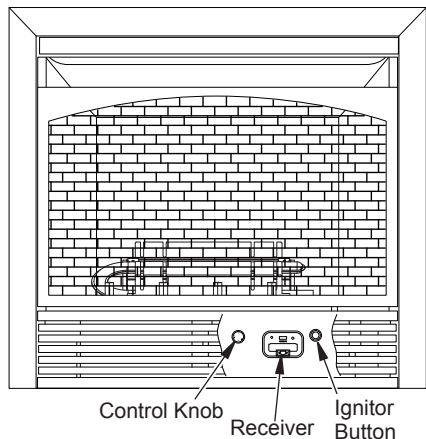

Figure 24 - Control Knob in the OFF Position
*Note: The first time that the heater is operated after connecting the gas supply, the control knob should be pressed for about thirty (30) seconds. This will allow air to bleed from the gas system. If pilot does not stay lit, refer to **Troubleshooting**, pages 26 through 29. Also contact a qualified service technician or gas supplier for repairs. Until repairs are made, light pilot with match.*
4. Wait five (5) minutes to clear out any gas. Then smell for gas around heater and near the floor. If you smell gas, STOP! Follow "B" in the safety information above. If you do not smell gas, go to the next step.
5. Push in the control knob slightly and turn counterclockwise  to the PILOT position. Press in control knob for five (5) seconds (see Figure 24).